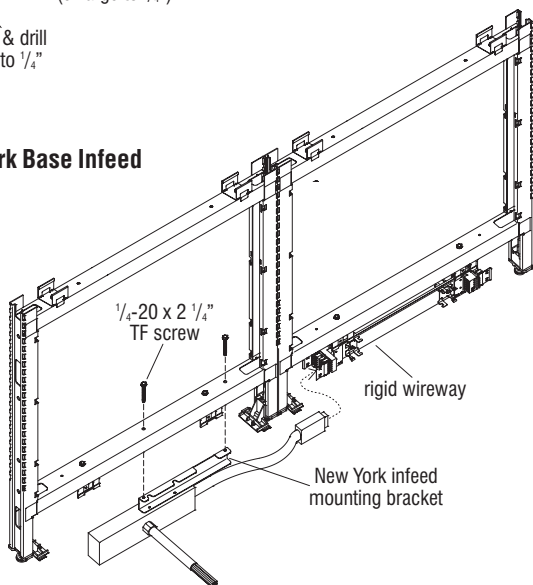

Figure 15 - New York Base Infeed
2. Turn the New York base power infeed right side up as illustrated, and position under the lower horizontal frame rail. Insert and tighten two  $1/4$ -20 x  $2 1/4$ " thread-forming screws through the horizontal frame and into the New York infeed mounting bracket (Figure 15).
3. Route the plug-end of the power infeed around the panel vertical rails, and press the plug into the adjacent panel rigid wireway, snapping in to secure (Figure 15).